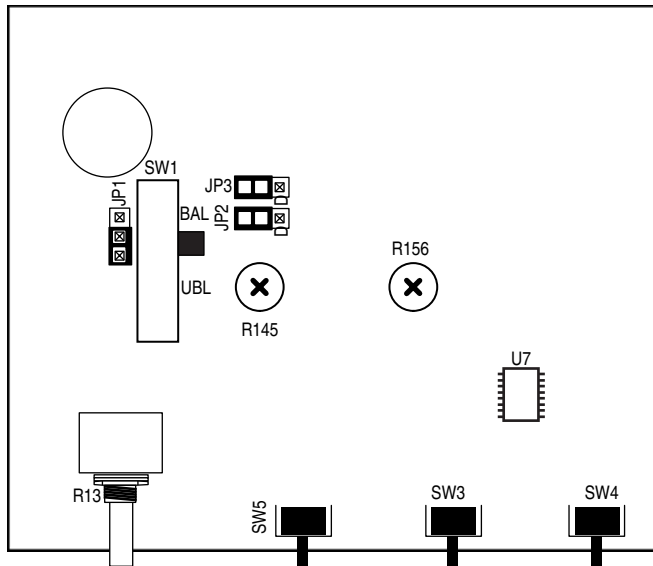

Figure 2. Internal Switches, Jumpers and Adjustments.
There are several internal switches, jumpers and adjustments that affect operation. These are described below. To gain access to the switches, jumpers and adjustments, disconnect all power and line connections. Remove two screws from the top of each side and two screws from bottom of each side. Switch, jumper and adjustment locations are shown in Figure 2.
**NOTE:** Figure 2 shows a BP-2002 with the switches and jumpers in their factory default positions. SW5 does not exist on the BP-1002 board
The sidetone adjustment is accessible either internally (refer to Figure 2) or by removing the belt clip mounting screw (callout 5 in Figure 1).
The Mic Gain adjustment is accessible internally on the board (R156) See Figure 2.